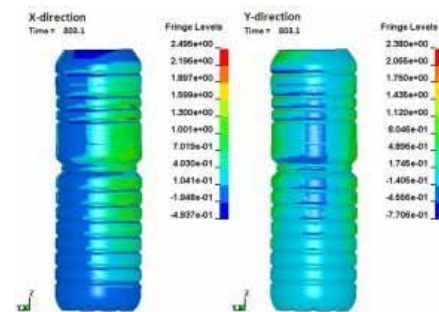

Fig 5 Deformation of the bottle body in mm
- Allowable lateral deformation (Fig. 5) of the bottle for proper label location is very small (i.e. promotion of brand quality guaranteed).